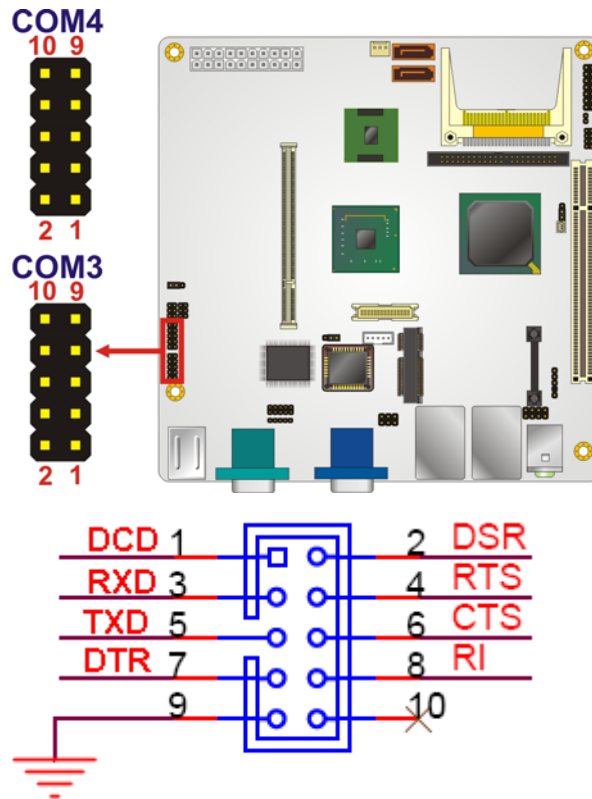

Figure 4-15: RS-232 Connector Pinout Locations
- CN Location:** See Figure 4-15